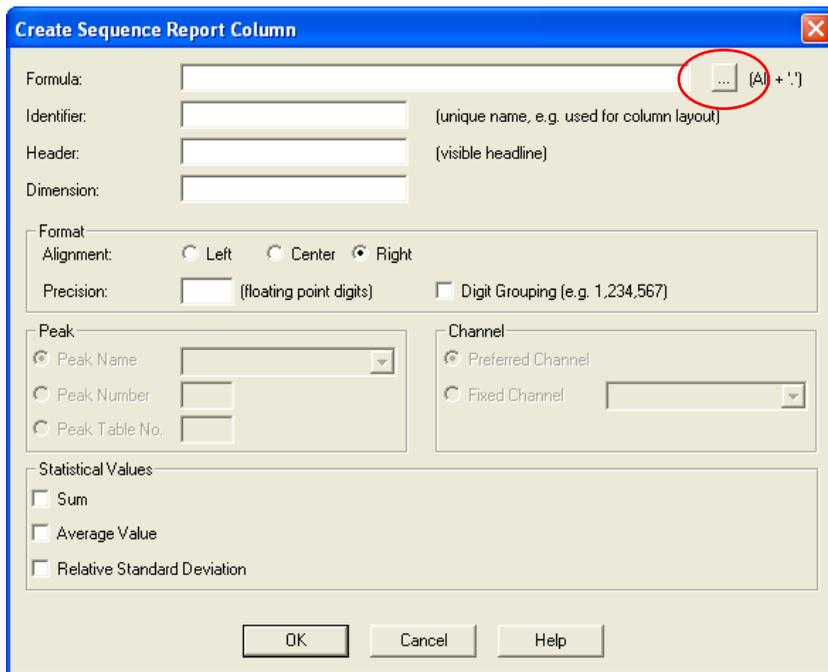

Figure 32. Chromeleon 6.8 Create Sequence Report Column Dialog Box
4. In the **Create Sequence Report Column** dialog box, click the browse (...) button in the **Formula** row (see Figure 32).